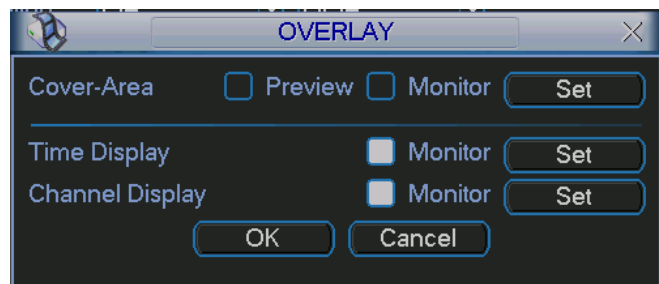

Figure 2-8
- Overlay: click overlay button, you can see an interface is shown in Figure 2-8.